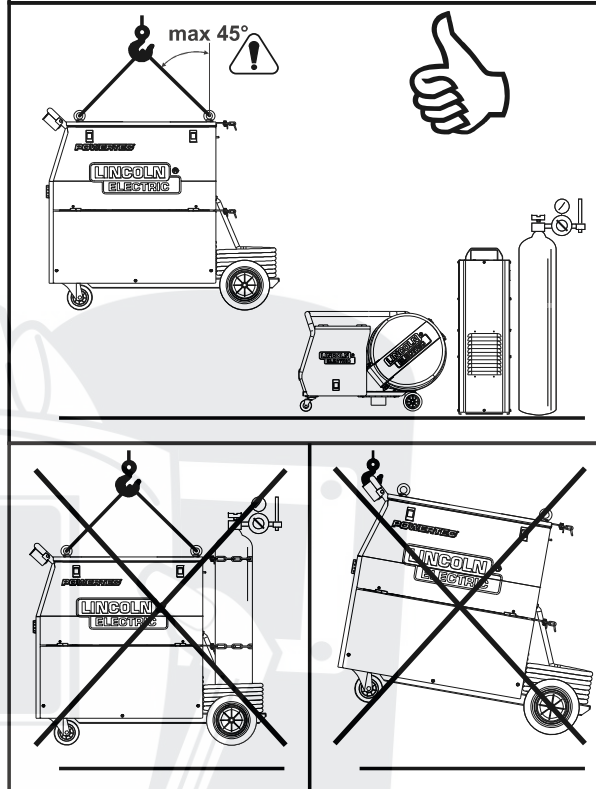

Figure 21.
To safety transport and lift POWERTEC 255C & 305C (see the Figure 21):
- Screw down an eye bolt and apply load axially in 45 degree angle in accordance to the Figure 21.